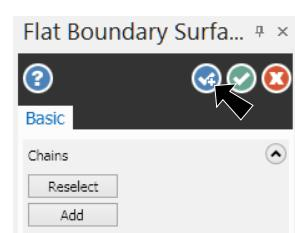

Fig. 20
Step 6. In Flat Boundary Surface function panel press ENTER or click OK and Create New Operation , Fig. 20.